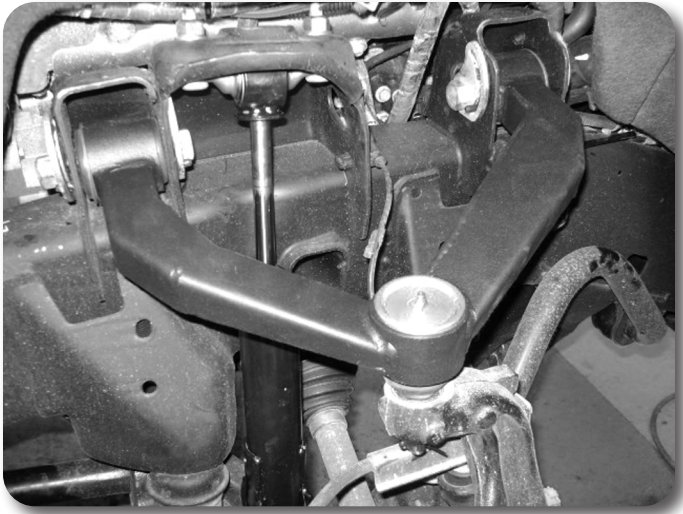

Figure 4
11. Install new upper control arm assembly with factory cam bolts. Arms are side specific. Snug, but do not tighten at this time. Attach the upper ball joint to the steering knuckle with provided nut, washer, and cotter pin. Tighten the upper ball joint nut to 55 ft-lbs before installing cotter pin. Figure 4